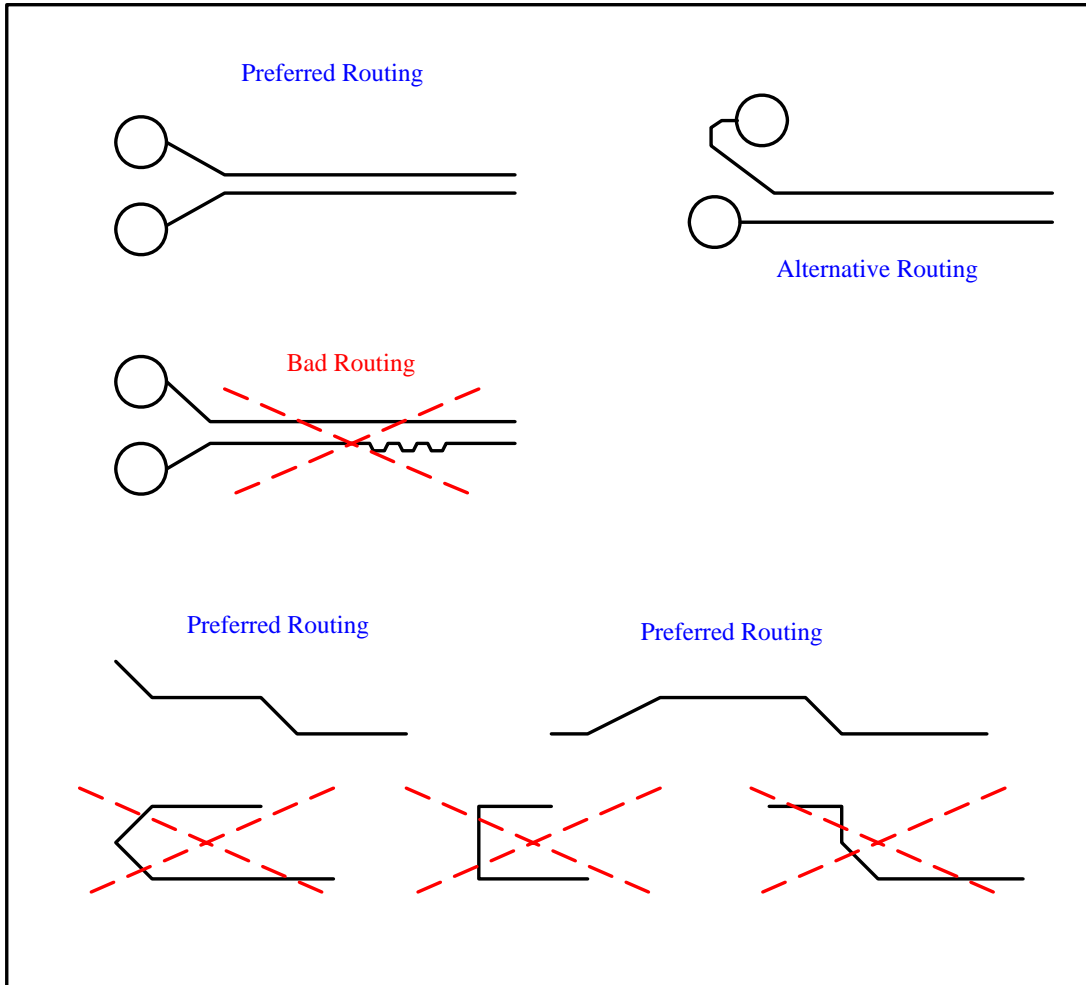

Figure 4-4: PEG Layout Trace Example
- When trace length matching occurs, it should be made as close as possible to the point where the length variation occurs, as shown in Figure 4-4. For example, length matching in a chipset breakout area or connector pin field should occur within the first **125 mils** (3.175 mm) of the structure that causes the length mismatch.
- When serpentine is needed to match lengths, the trace spacing should not become greater than two times the original spacing. The length of the increased spacing should not be greater than three times the trace width. See Figure 4-4. In determining the overall length of a given signal in a differential pair, use pad or pin edge-to-edge distances rather than the total etch present, unless the amount of trace routing inside each pad is identical. The amount of etch within a given pad is electrically part of the pad itself. In other words, only the etch outside of the pad edge is relevant to the overall length of a differential pair.